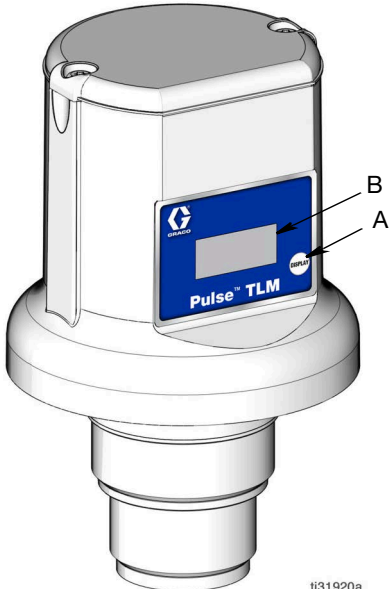

FIG. 7
Press and release the display button (A). Data appears on the display (B) (FIG. 7); each screen lasting a few seconds before going on to the next.
After a tank is refilled from an oil distributor or a waste oil tank is emptied by a waste oil service provider, press the display button (A) (FIG. 7) on the TLM to ensure that the TLM will maintain the most current tank volume status.